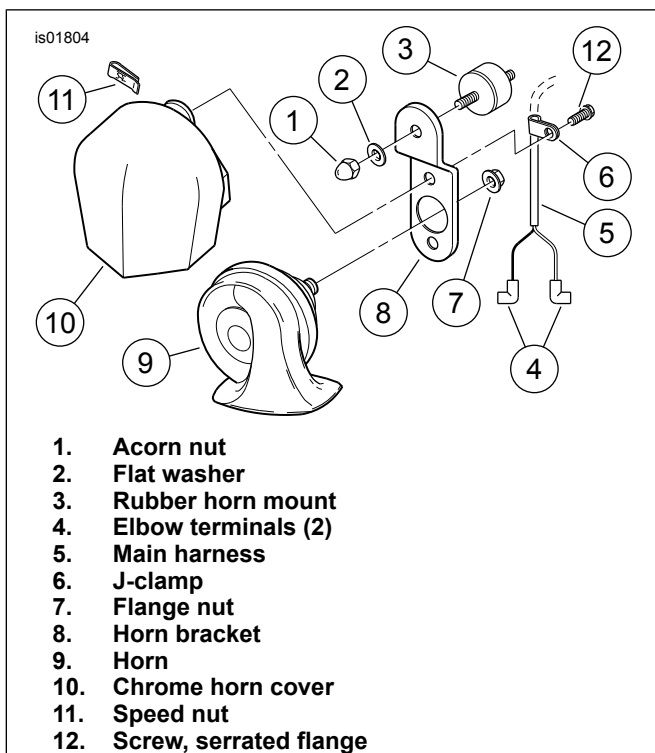

Figure 1. Original Equipment Horn Removal
2. See Figure 1. Remove the acorn nut (1) and flat washer (2) to free the horn assembly from the rubber mount (3) stud. Remove the rubber mount from the weld nut on the engine strap, and discard the mount.
3. Remove the elbow terminals (4) from the two spade contacts on the horn (9), and release the main harness conduit (5) from the J-clamp (6).